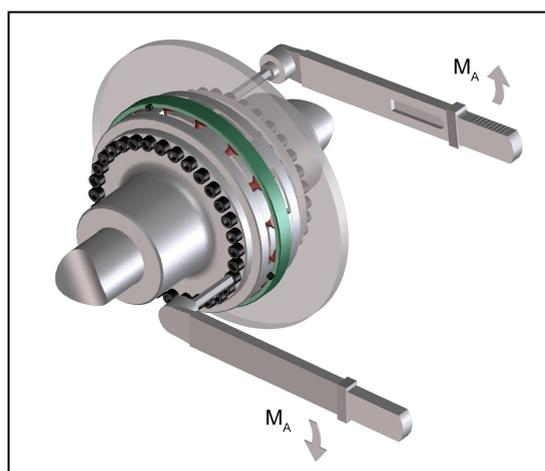

Fig. 11
- Tighten the bolts with the torque M_A specified in table 8 (Fig 11).